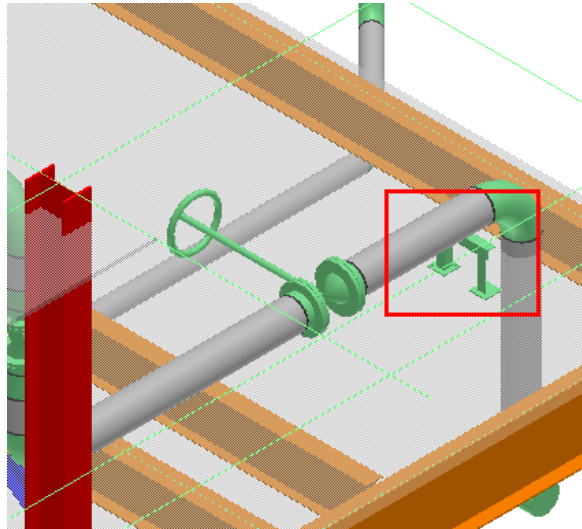

Figure 1: Final Output: Supports Placed by Point: U-Shaped Frame
**Exercise Objective:** In this exercise you will be placing a standard **U Shaped Frame L3x3x1/4 w/Base plate** support supported by the slab (*shown below in Fig. 1*) at a specific point on a pipe straight feature of pipeline **300-W**. The Standard Support should resemble the highlighted support in Figure 1.